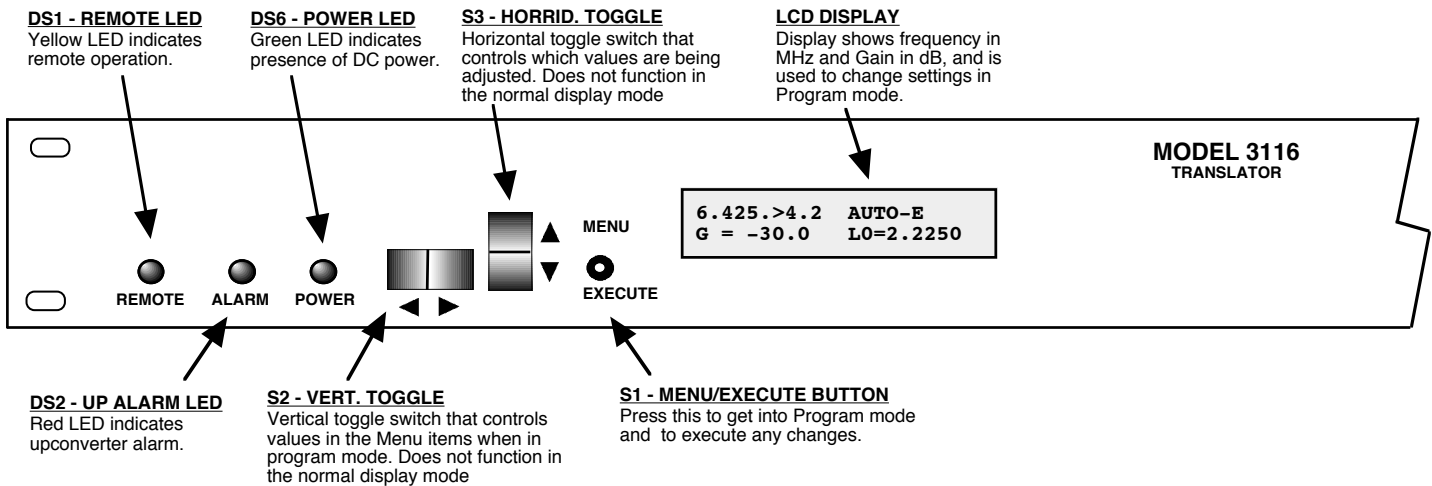

FIGURE 2.3 3116-64T42 Front Panel Controls and Indicators
Figure 2.3 shows the front panel controls and indicators.
4. Be sure DS6 (green, DC Power) is on and DS2 (red, Alarm) is off (Figure 2.3).
2.5.1 Functions - This section describes operation of the front panel controls. There are three operator switches, the LCD display and alarm indicator LEDs. All functions for the equipment are controlled by these components. The functions are (see Figure 2.3):
Alarm indications appear on the LEDs (See figure 2.3).